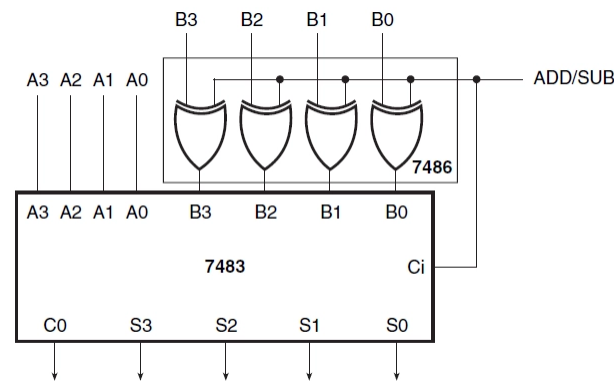

Figure 5.15: Adder-subtractor schematic
**Task 14.** An adder-subtractor can perform both addition and subtraction by representing signed numbers in their two's complement notation. Modify the inputs of the full adder IC as shown in Figure 5.15 to construct an adder-subtractor.